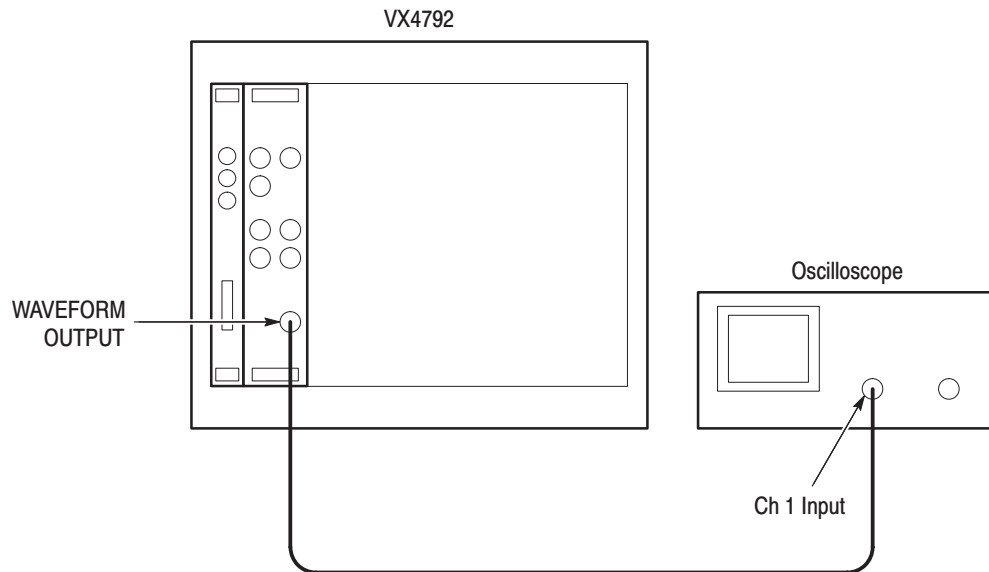

Figure F-10: Autostep Mode Initial Test Setup
1. *Install test setup and set test equipment controls (see Figure F-10):*